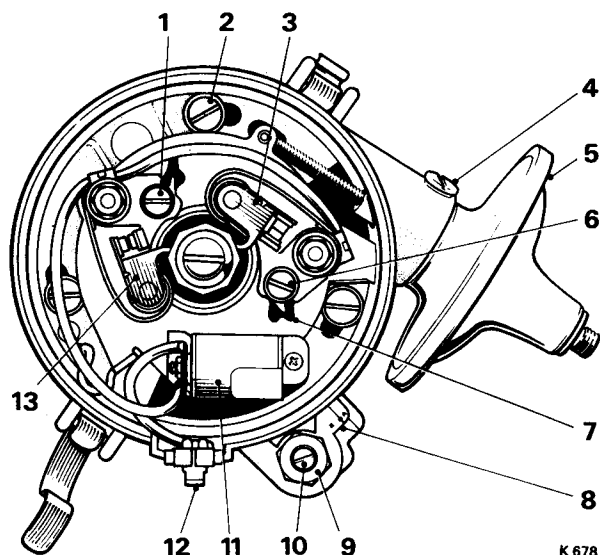

FIG. M7 INTERNAL VIEW OF DISTRIBUTOR
2. Using a screwdriver in the contact breaker adjusting slot (see Fig. M7), set the gaps to between 0,356 mm. and 0,406 mm. (0.014 in. and 0.016 in.).
2. Release the lock-nut and set the octane selector scale to 'A' (see Fig. M7).
3. Check that the octane selector position is in the fully advanced position and that the scale is set to the 'A' mark and adjust if necessary (*see Fig. M7*). Adjustment is carried out by slackening the lock-nut and turning the slotted screw.